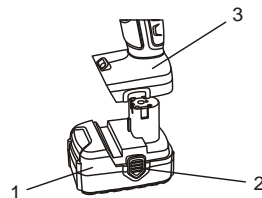

Fig. 2
1. Remove the discharged battery pack (1) from the tool by pressing the battery release buttons (2) on each side of the battery pack and pulling the battery pack out of the tool handle (3) (Fig. 2).
3. Insert the battery in the tool (Fig. 2).